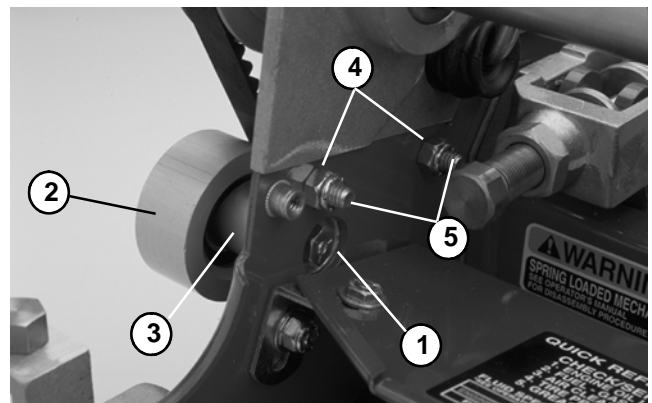

Figure 47
7. Remove both cap screws and lock nuts securing the clutch housing to the side plate. Rotate housing 180° so the bottom of the housing points upward (Fig. 47 and 48).